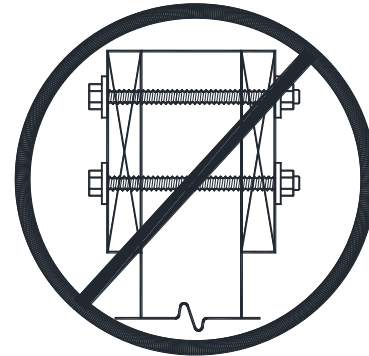

FIGURE 20: PROHIBITED CONNECTION
- Beams shall not be attached to the sides of an unnotched post as shown in FIGURE 20.